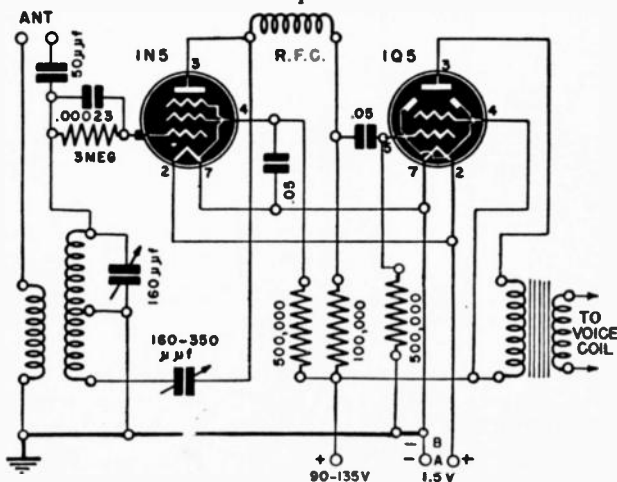

Fig. 103
A. The modified Hartley shown in Fig. 103 will meet your requirements. Ordinary broadcast and short-wave plug-in coils may be used, with the tap made from 10 percent to 25 percent of the way up from the plate end. Experiment to obtain the best point.